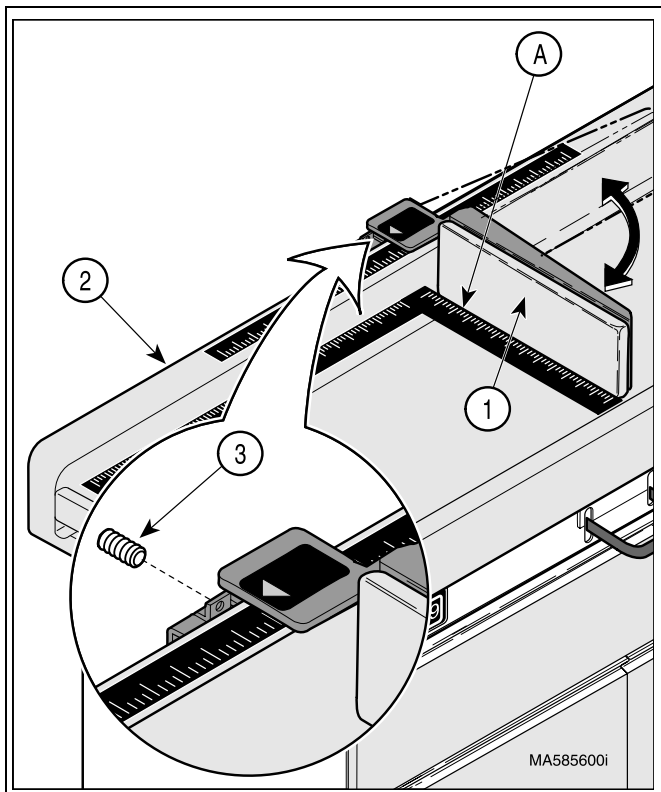

Figure 4-6. Linear Scale Alignment
- (1) Open measuring arm of linear scale (1, Figure 4-6) to its fully extended position as shown in illustration.
- (2) Using a carpenter square (A), check to see if the measuring arm of linear scale (1) is square with back of upholstered table top (2) when linear scale is fully extended.
- (3) If measuring arm of linear scale (1) is not square, use a 3/32 in. Allen wrench to adjust setscrew (3) until linear scale is square with back of upholstered table top (2).